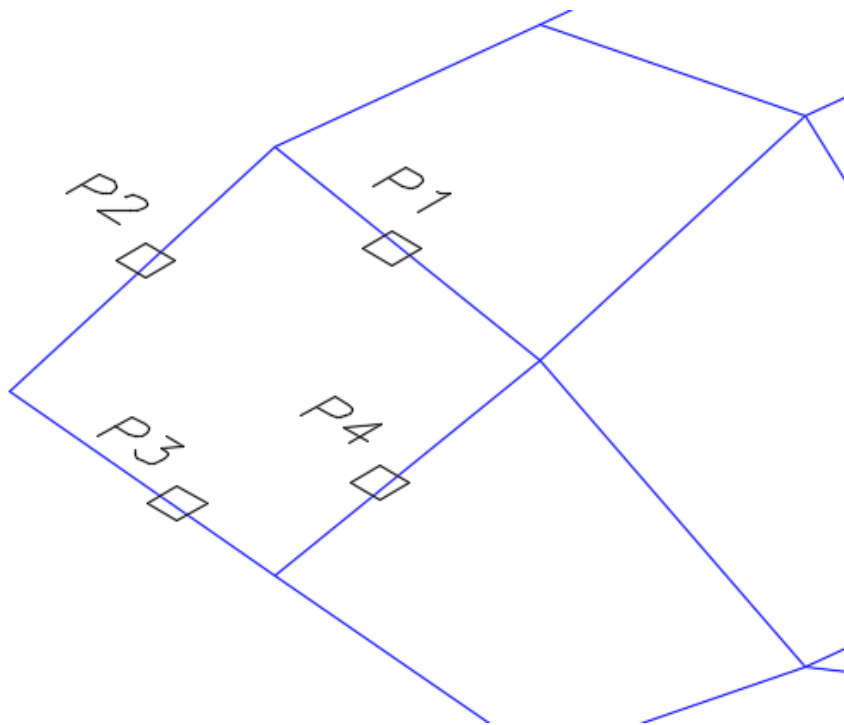

Figure Step 14
Step 14 On layer: Surface 4, use the EDGESURF command, as shown below, to create a surface mesh on one grid square. (Figure Step 14)